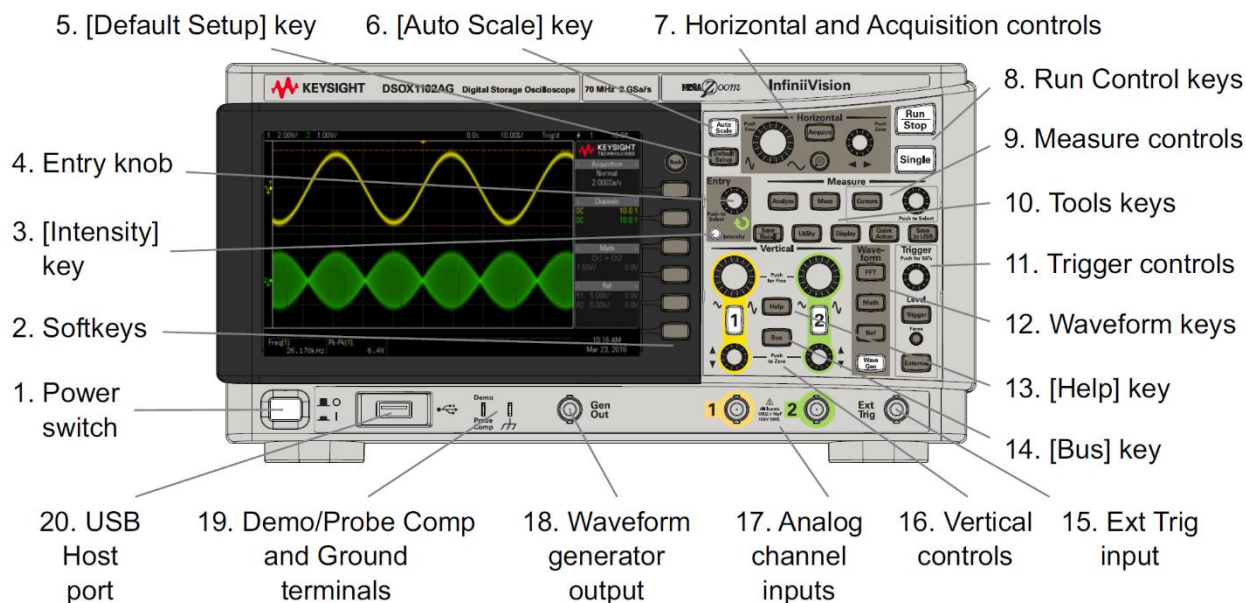
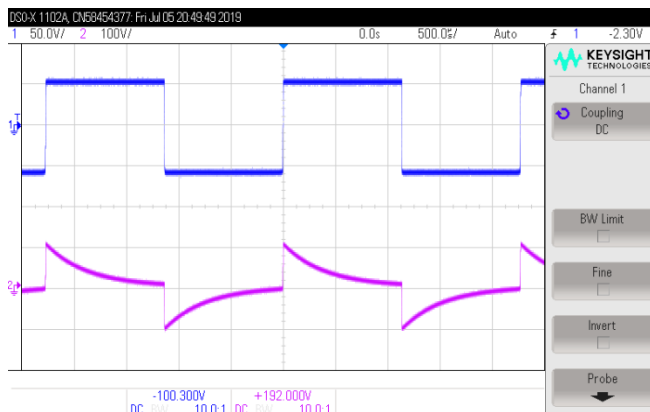

Figure 3 Keysight Oscilloscope
Figure 4 Example of Square Wave and Decay
The oscilloscope has many capabilities as well as knobs and buttons. To facilitate this lab, an image from the user manual is shown in Figure 3. In the appendix, at the end of this lab, is a brief description of some of the controls, as described in the user manual.
3. Attach the BNC/Banana Jack adaptors to the analog channels of the scope (#17 in Figure 3).
4. From channel 1 of the scope, install (2) electrical leads into the red and black ports. Install the other ends into the top of the plugs on the FG.
9. Turn on the scope. Enable channels [1] and [2]. The buttons are in the **Vertical** group of the scope (#16 in Figure 3).
11. Press the **[Auto Scale]** key (#6 in Figure 3). Your screen on the scope should resemble Figure 4. If it does not, consult your instructor.
12. In the **Measure controls** group (#9 in Figure 3), use the cursor knob to position cursor X1 at the peak voltage of the discharge curve (near the center of the screen).
14. Disable channel [1] to facilitate screen viewing. Press the **[Auto Scale]** key (#6 in Figure 3). Your screen on the scope should resemble Figure 5.
15. In the **Run Control** keys group, press the **[Single]** key (#8 in Figure 3). This will prevent the scope from continuously updating the display with new decay curves.
17. In the **Measure controls** group (#9 in Figure 3), use the cursor knob to position cursor X2 to a time equal to the time associated with X1 plus the time-delay constant  $\tau$ .
19. In the **Measure controls** group (#9 in Figure 3), use the cursor knob to configure the cursor setting to move X1-X2 together as a window.